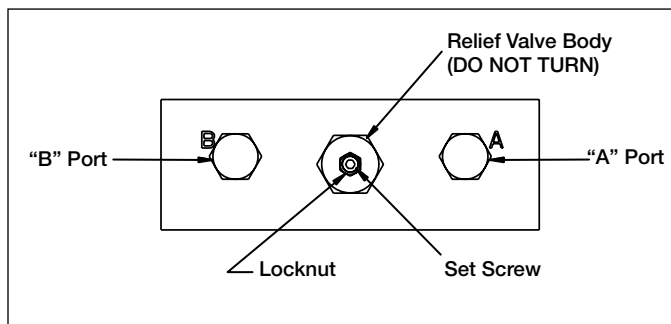

Figure 7, Relief Valve
2. Install a 0-6,000 psi [0-400 bar] pressure gauge in the "A" port (see figure 7).